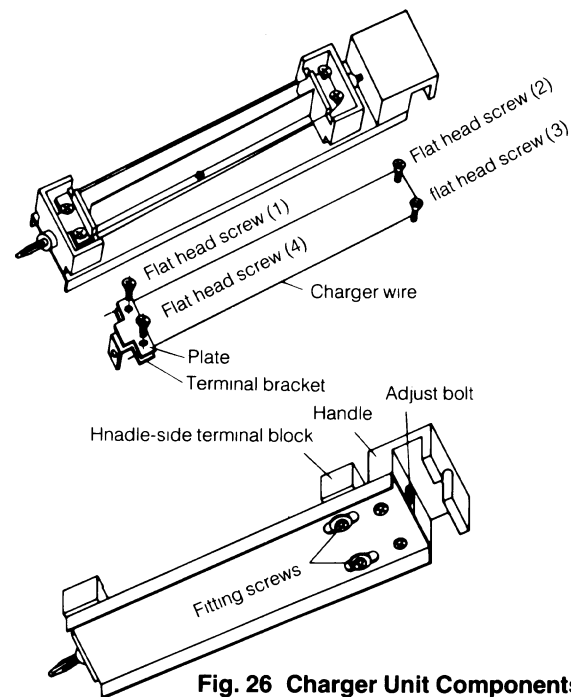

Fig. 26 Charger Unit Components
- When replacing the charger wire, secure its points (1), (2), (3) and (4) as shown in Fig. 26 in this numerical order. Loosen a bit the two tension adjuster fitting screws on the rear of the handle-side terminal block and turn the adjust bolt counterclockwise to loosen the wire. Put the charger wire points (1) and (4) between the terminal bracket and the plate at the socket side and fix it with the flat head screws. Lead the charger wire points (2) and (3) around the flat head screws at the handle side.